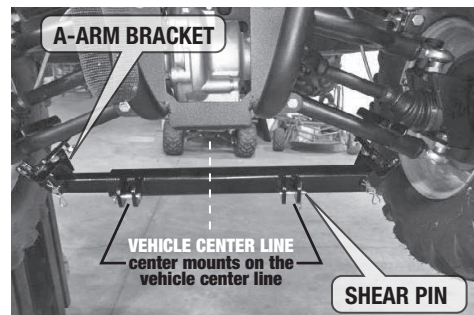

fig. 5
- 1 The A-Arm mounting brackets should be installed loosely in order to obtain the proper centering of the final mounting assembly as shown in figure 5.
- 2 With the mounting bracket centered on the vehicle, tighten the A-Arm mounting brackets so that they are secured to the vehicle as shown in figure 5.